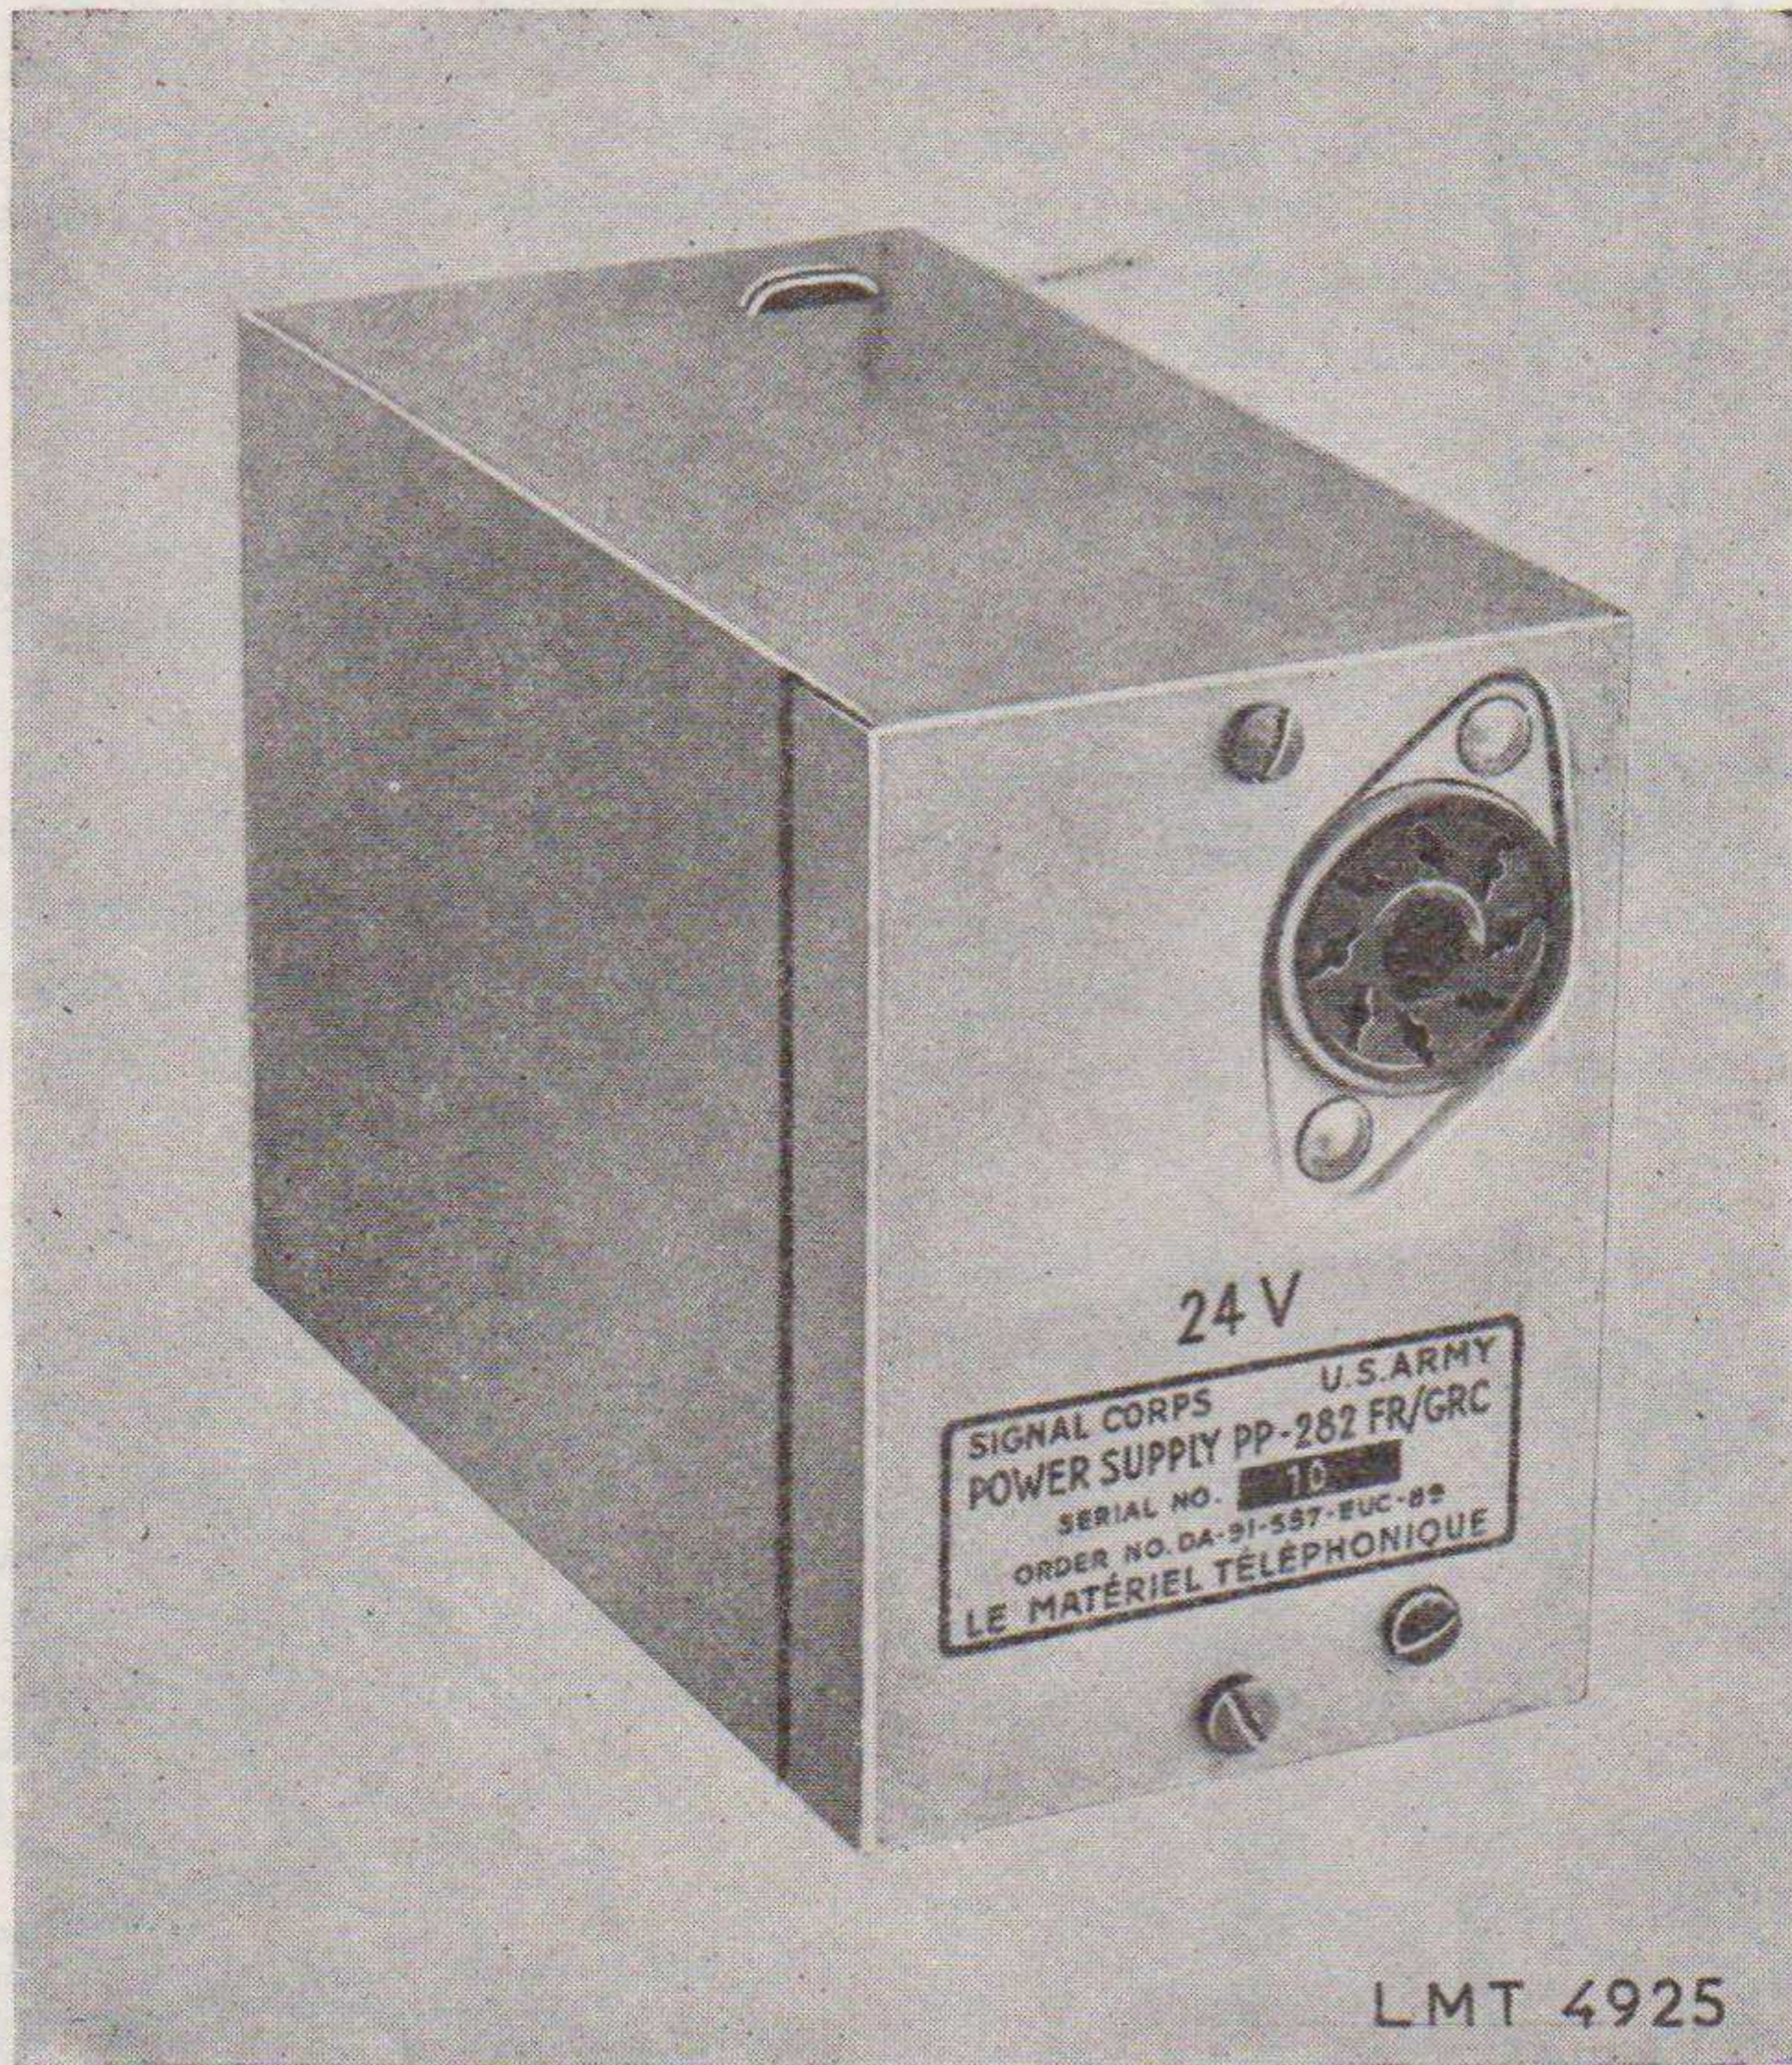

Figure 1.—Power supply PP-282/GRC, front view.
(fig. 1)
(figs. 1 and 2)
a. The unit shown in figure 1 consists of a metal panel and chassis assembly inclosed on top by a four-sided metal cover and at the bottom by a metal plate which covers the underchassis. Disassembly instructions are included in paragraph 12a. A handle is provided on the back of the top cover to aid in the handling of the unit while it is being inserted into or removed from a set. The metal panel at the front of the unit is provided with an octal socket. All the electrical connections between the storage battery, the power supply, and the circuits of the set to be operated are made through this socket connector.